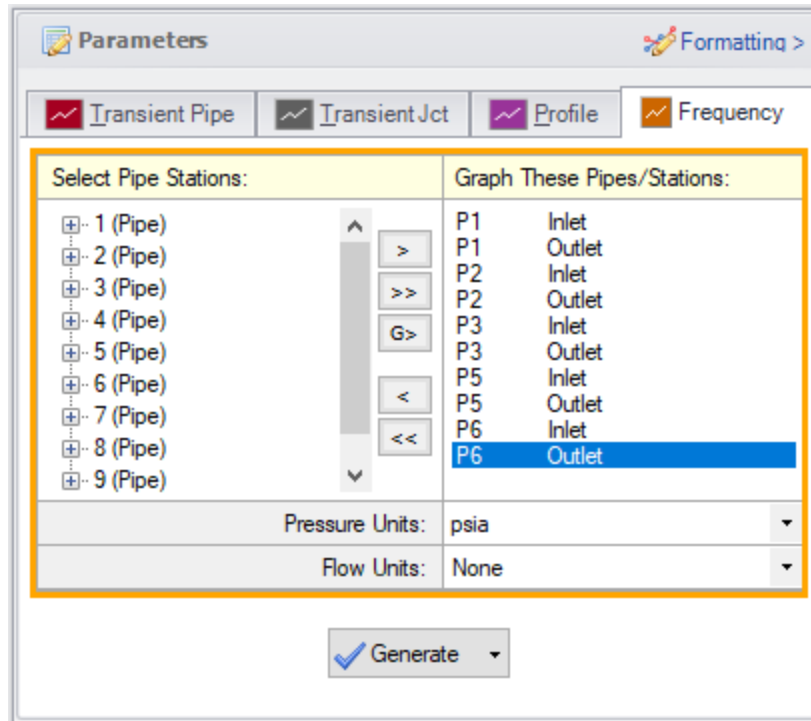

Figure 8: Graph Parameters selected for Excitation Frequency Analysis graph
- c. On the Graph Results tab, select the Frequency tab and select the inlet and outlet stations for the following pipes: 1, 2, 3, 5, and 6 (see Figure 8).